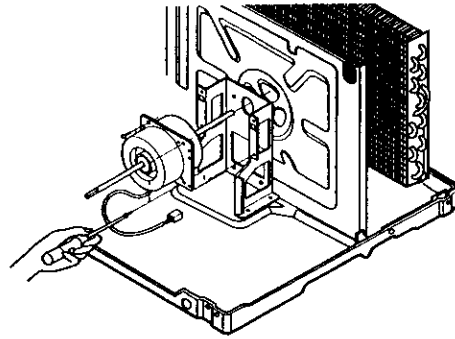

Figure 54
7. Remove the 4 screws which fasten the motor from the mount motor. (See Figure 54.)